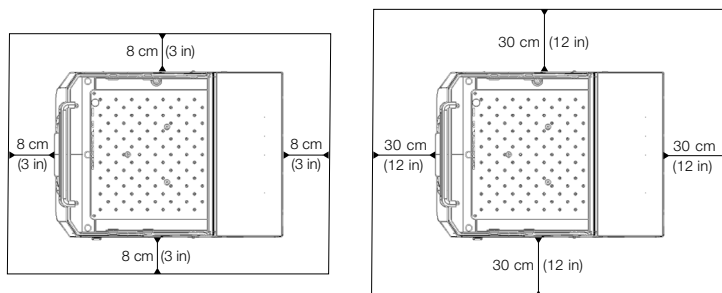

Figure 14: Set Up Clearances for Incubated and Refrigerated Shakers with free air above (left), and Refrigerated Shakers without free air above (right)
- Solaris 2000 I and 4000 I incubated shakers require a clear area of 8 cm (3 in) on all four sides of the casing, as shown on the left side of Figure 14.
- Solaris 2000 R and 4000 R refrigerated shakers may be operated with a clear area of 8 cm (3 in) on all four sides of the casing if there is **free air space above** their hood, as shown on the left side of Figure 14.
- If the **air space above** the Solaris 2000 R and 4000 R refrigerated shaker is **obstructed**, the clearance around the casing must be increased to 30 cm (12 in) on all four sides, as shown on the right side of Figure 14.